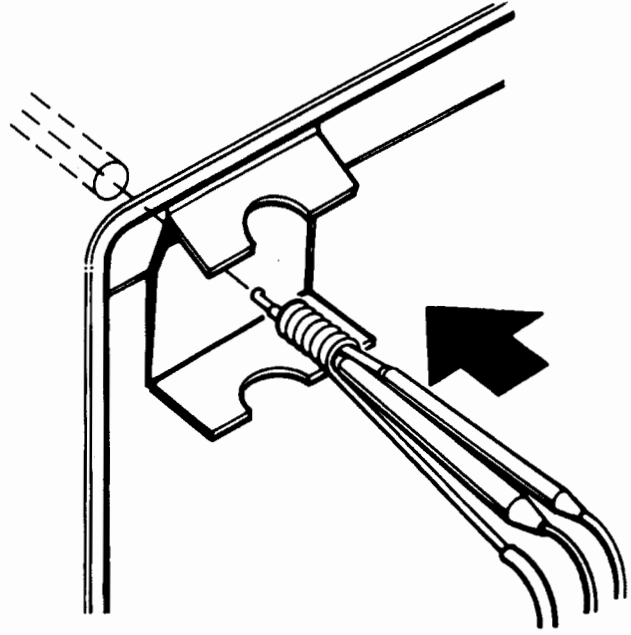

FIG. 20
1. Locate thermostat phials into boiler pocket ensuring that they are correctly located and positioned. (Fig. 20)